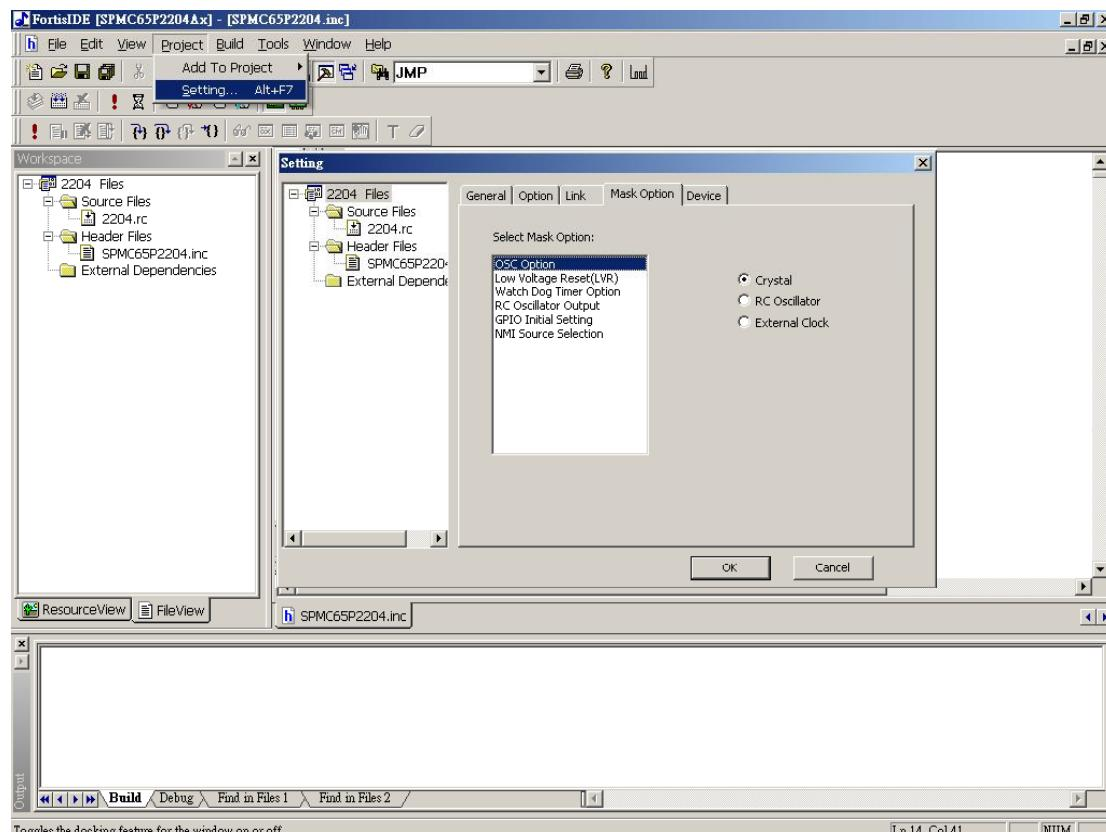

Figure 7-1 Clock Source Option Window
Different types of clock sources can be selected by setting device configuration registers. When using Sunplus Fortis IDE, device configuration registers can be set in [Projectà Settingà Mask Optionà OSC Option] Figure 7-1.
- Using Fortis IDE, in Figure 7-1, select [Crystal] in [OSC option].
- Using Fortis IDE, in Figure 7-1, select [RC Oscillator] in [OSC option].
- Using Fortis IDE, in Figure 7-1, select [External Clock] in [OSC option].